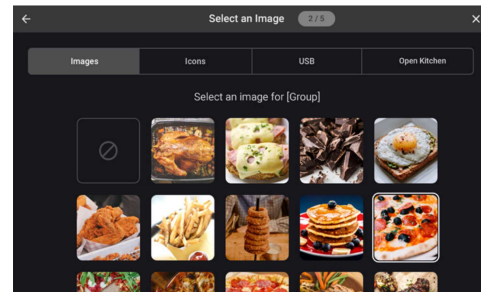

Figure 20: Select Group Image
4. Select an image and touch the blue “Save” button (Figure 20, below).